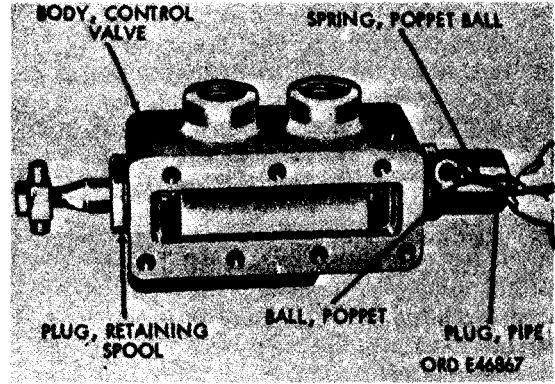

Figure 98. Removing poppet ball
(2) Remove the control valve end cap.
- (a) Remove the pipe plug, poppet ball spring, and poppet ball (fig. 98) from control valve end cap.
- (b) Install poppet ball, poppet ball spring, and pipe plug (fig. 98) in control valve end cap.
- (4) **Install upper and lower manifolds.**